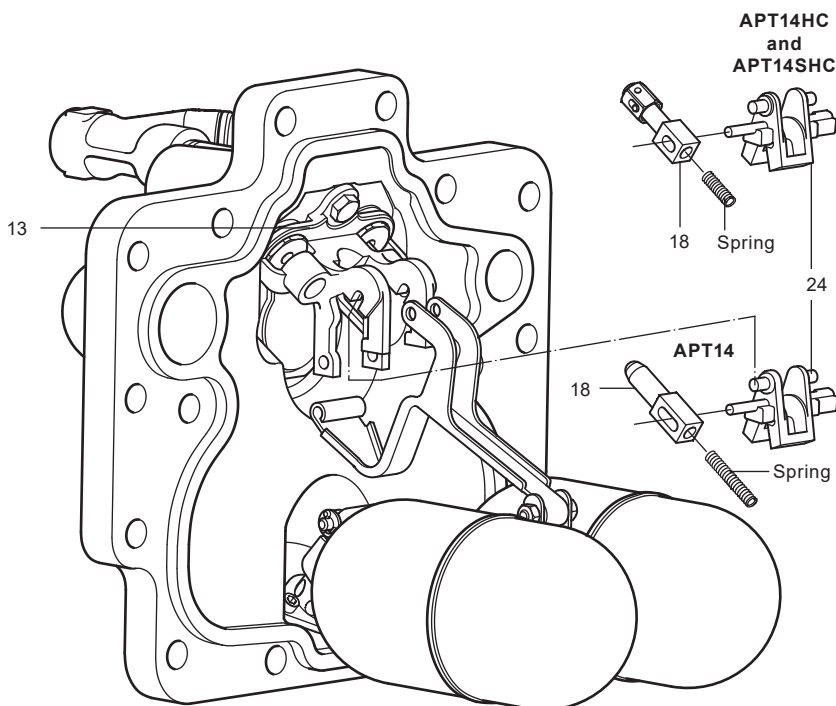

Fig. 23 APT14 shown
7. Remove the exhaust valve from the actuator arm (item 24, shown in Figure 23) being careful not to damage or lose the small exhaust valve compression spring.